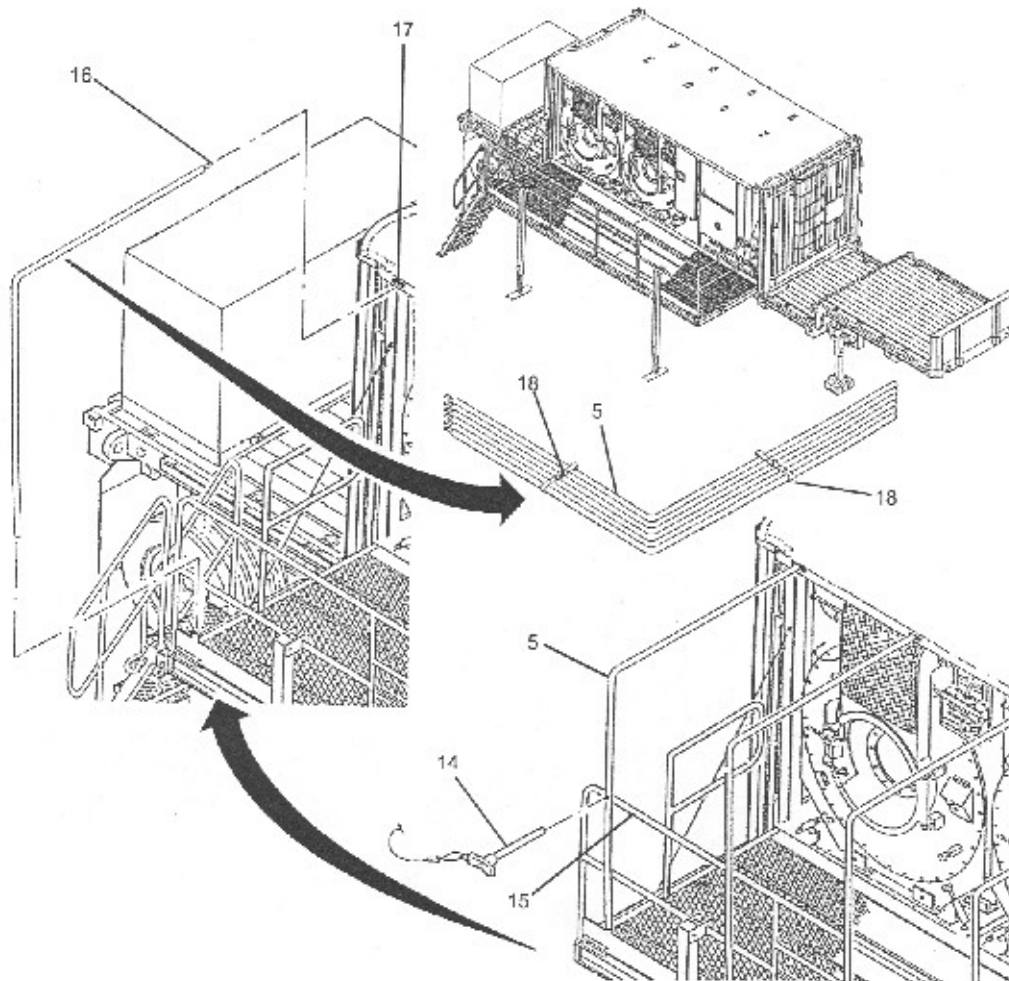

Figure 3-59
- (1) Install winch handle onto winch.
- (2) Loosen cable slightly then unhook shackle from u-bolt.
- (3) Use winch to pay out cable while maintaining a slight tension on cable.
- (4) Connect shackle to u-bolt. (See Figure 3-59)